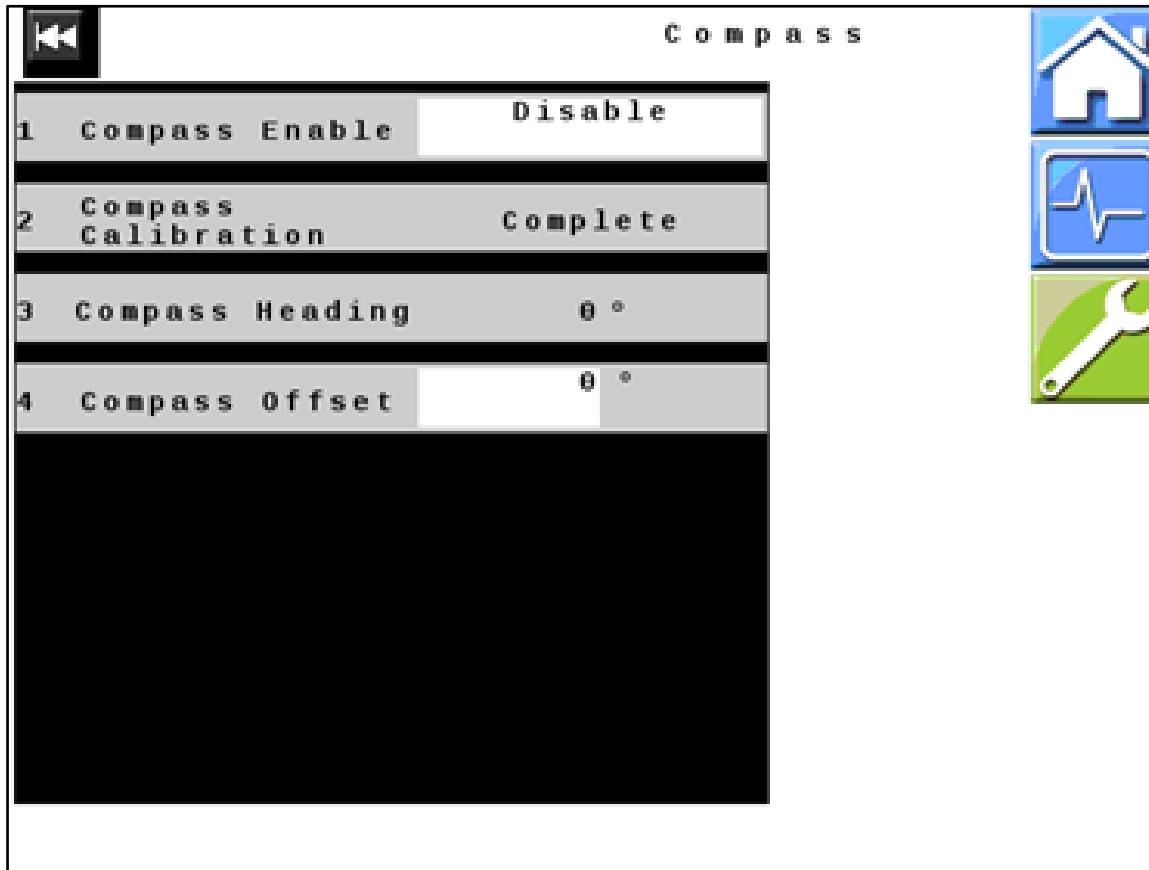

Figure 24 — Compass
42. *Figure 24:* Verify that all values displayed on your unit match those shown here. Change values if necessary.